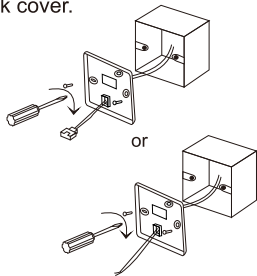

Fig.2
3. As shown in Fig.2, fix $\phi 4 \times 20$ mm screws provided together with the back cover on 8 6 box, then pass lead wires through the back cover.